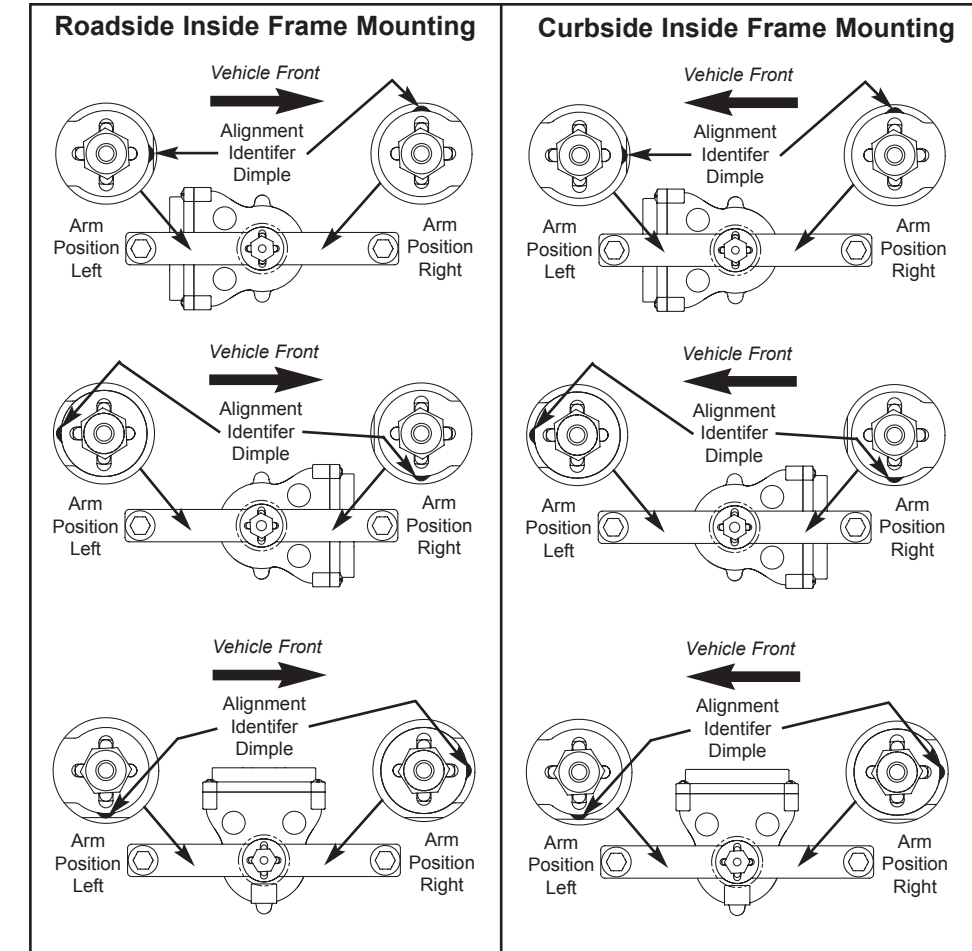

Figure 2. HCV Control Arm Orientation
- Determine the control arm and alignment identifier dimple on black cap are in the proper orientation (Fig. 2).
NOTE: The Haldex Type PR HCV can be installed in a vertical or horizontal position with the control arm in either left hand or right hand position (Fig 2).
Fasten the control arm to the valve body making sure the alignment identifier dimple on the black cap is in the proper position for your valve orientation (Fig. 2). Use the provided nylok nut and tighten to 20 in. lbs.